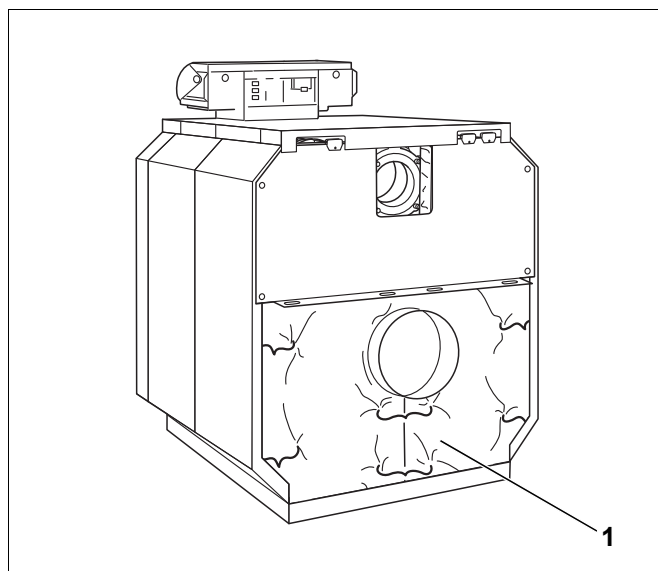

Fig. 76 Draw the thermal insulation on the rear section together
- Pivot the thermal insulation on the rear section down and draw together below the flue outlet using a spring hook (Fig. 76, [1]).